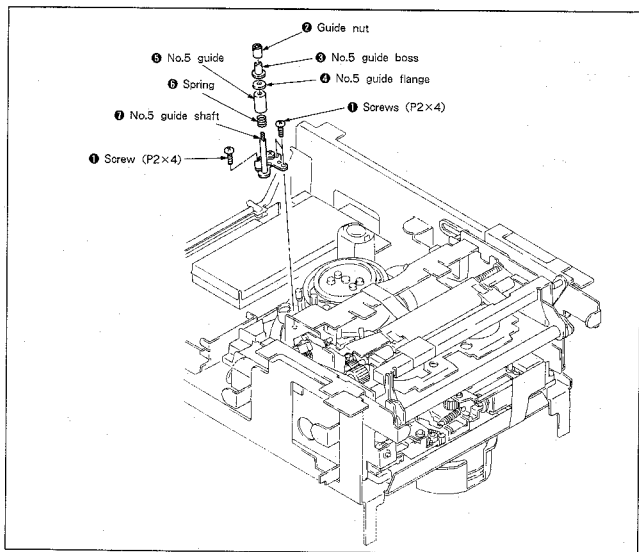

Fig. 7-52.
1. Removal (See Fig. 7-52.)
2. Mounting (See Fig. 7-52.)